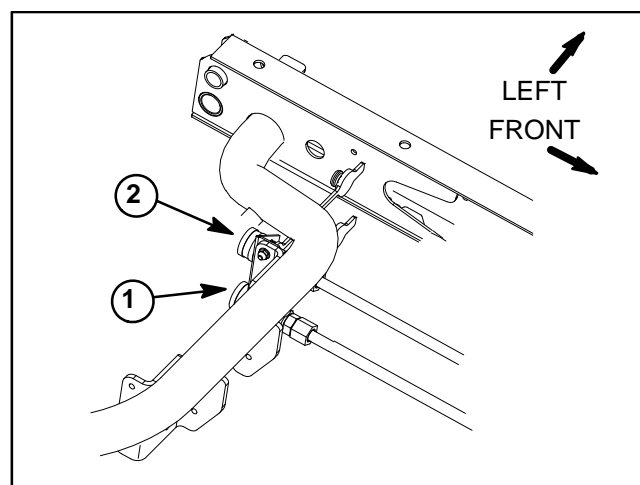

Figure 23
1. Make sure hydraulic oil is at normal operating temperature by operating the vehicle for approximately ten (10) minutes.
IMPORTANT: Make sure that the oil flow indicator arrow on the flow meter is showing that the oil will flow from the pressure (P) coupler, through the tester and into the return (T) coupler (Fig. 23).